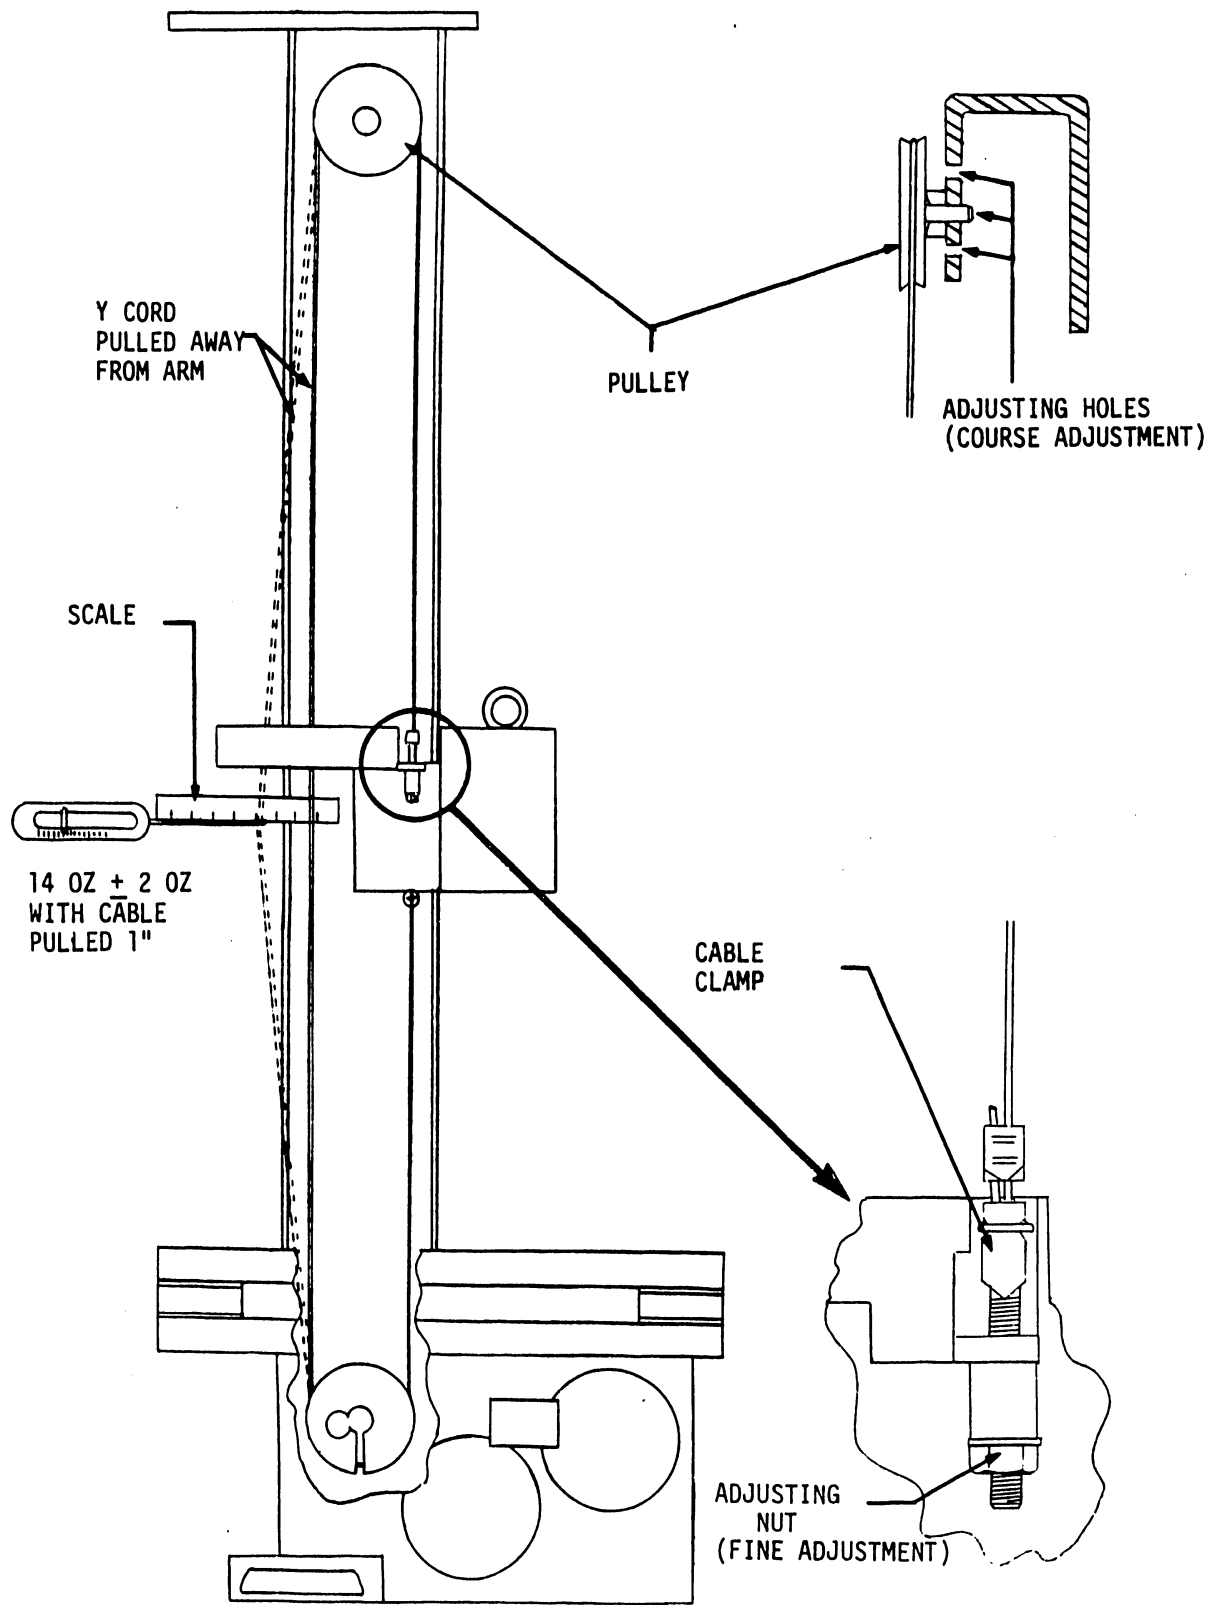

FIGURE 24
- 1) With the carrier assembly in the center of the Y arm, using a spring scale, pull the cable away from the arm. When the cable is pulled a distance of 1" there should be a reading of 14 oz \pm 2 oz (See Figure 24).